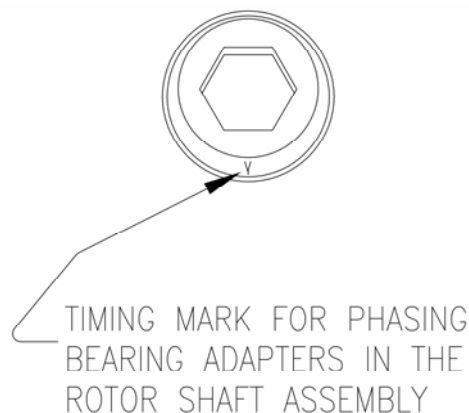

Figure 23. Timing mark
1. Rotate the adapters in each rotor so the timing marks (See Figures 23 & 24) are phased 180 degrees apart with hex bores aligned.